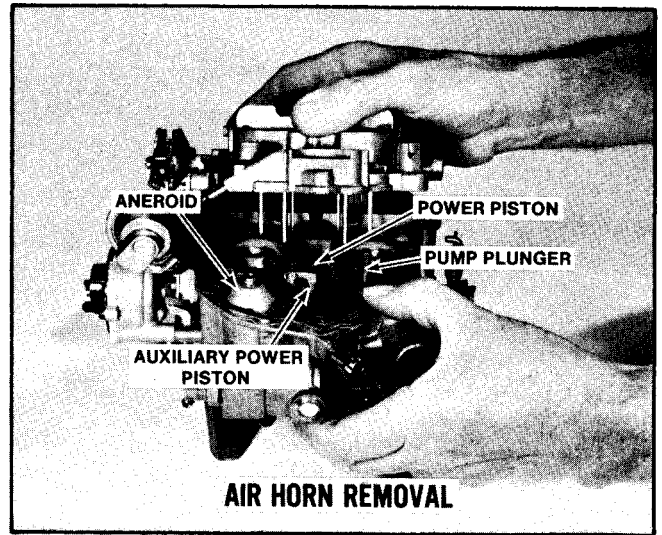

Figure 47 Air Horn Removal
**NOTICE:** Some models have a secondary baffle plate mounted under the (2) center air horn attaching screws next to the secondary bores (Nos. 3 and 4). The baffle can be removed also at this time. Other models have a secondary air valve lockout shield located over the lockout lever. This is held in place by the air horn screw next to the lockout lever and a small attaching screw. (Check the "C" parts bulletin in the Delco Carburetor Parts and Service Manual 9X for correct usage of these parts).
10. Remove air horn from float bowl by lifting straight up (Figure 47). On 4MV-4MC models, rotate air horn to remove vacuum break rod from dashpot lever on end of the air valve shaft. Air horn gasket should remain on bowl for removal later.